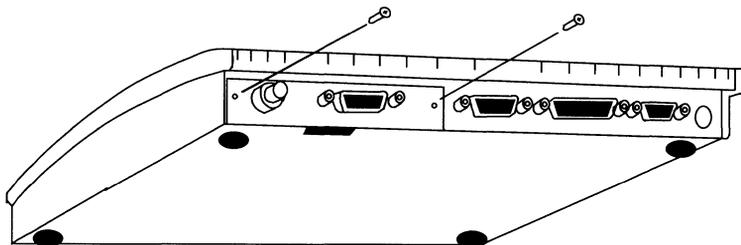

Figure 2-6. Removing the Communications Interface Module Screws
1. Remove the two screws holding the module in place in the base unit. See Figure 2-6.